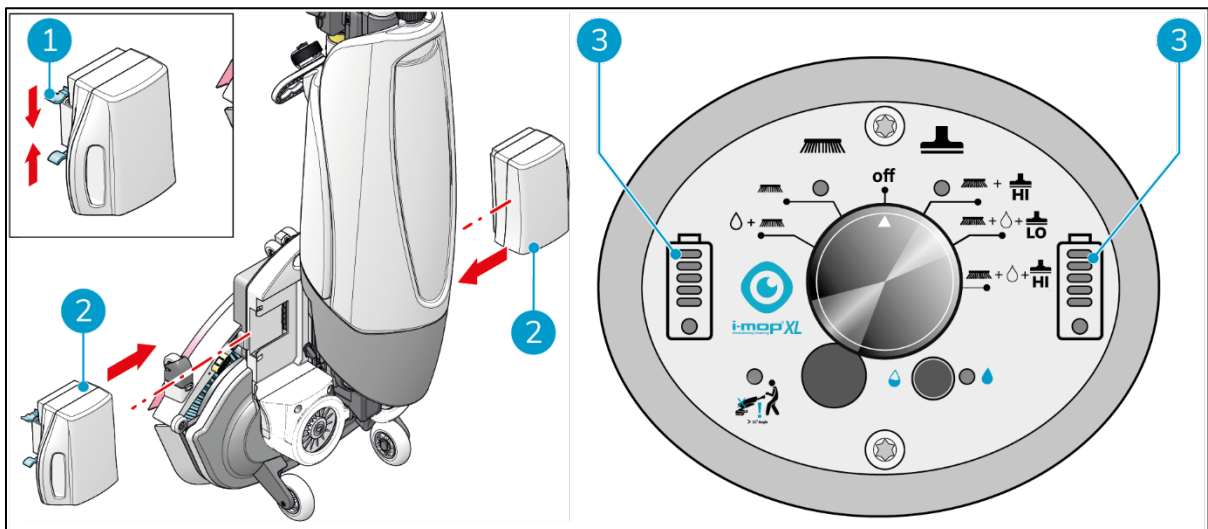

Figure 17
1. Push the blue coded battery (Figure 17, pos. 2) in the blue battery slot. A click indicates the battery is locked in place (Figure 17, pos. 1).
3. During operation, the battery indicators (Figure 17, pos. 3) on the control panel show the amount of power left.